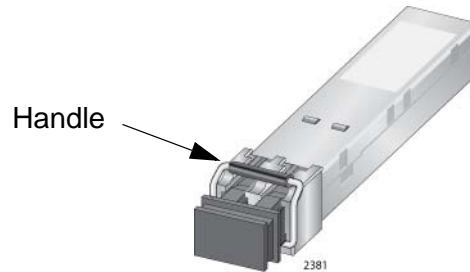

Figure 81. Handle on SFP Transceiver
3. To install the transceiver in an SFP slot on the top row of the line card, orient the transceiver with the handle on top, as shown in Figure 81. To install it into a slot on the bottom row of the line card, orient it with the handle on the bottom.